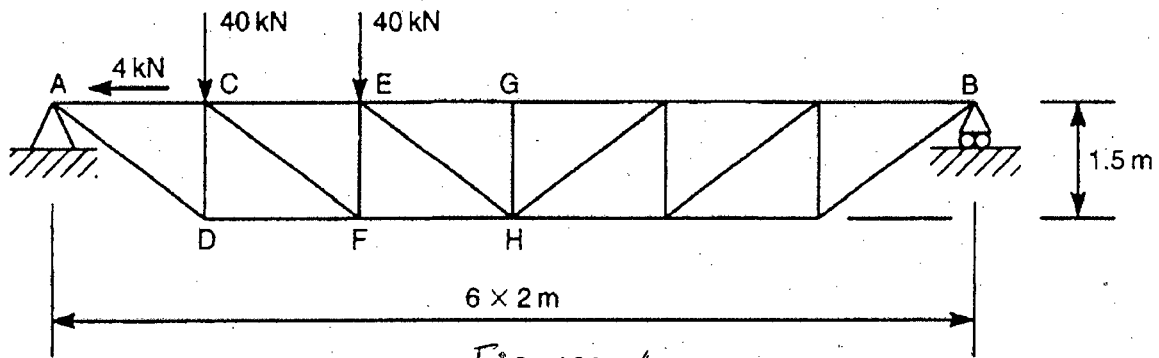

Figure 1
1. (a) A 6-storied RC hospital building has a plan dimension of 150 ft × 120 ft and typical floor-to-floor height of the building is 12 ft except the ground floor. The height of the ground floor is 15 ft. The building is an intermediate moment resisting frame having slab thickness of 8 inch. Floor finish, partition wall load, service live load are 30 psf, 70 psf and 60 psf, respectively. Draw shear force and bending moment distributions along the height of the building for Earthquake resistant design. Given:  $R = 5$ ,  $I = 1.50$ , Soil type SC and  $Z = 0.28$ . (38)
- (b) Calculate the force in the member FH of the truss as shown in Figure 1. Note that the horizontal load of 4 kN is applied at the joint C. (8 $\frac{2}{3}$ )
(c) For the velocity distribution given in Figure 1. Find  $\alpha$  and  $\beta$ . (152/3)